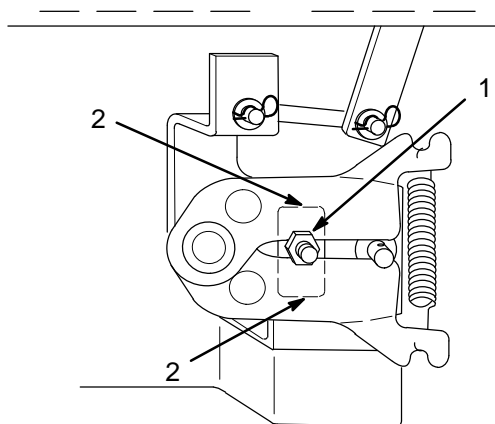

Figure 4
3. Loosen locknut securing adjustment (Fig. 4).
4. Move adjustment stud up or down until creep is minimized (Fig. 4). There may still be some wheel rotation with wheels off the ground.
5. Tighten the locknut (Fig. 4). Move the traction control pedal forward and reverse and allow it to center. Verify that there is no creep with the wheels on the ground.